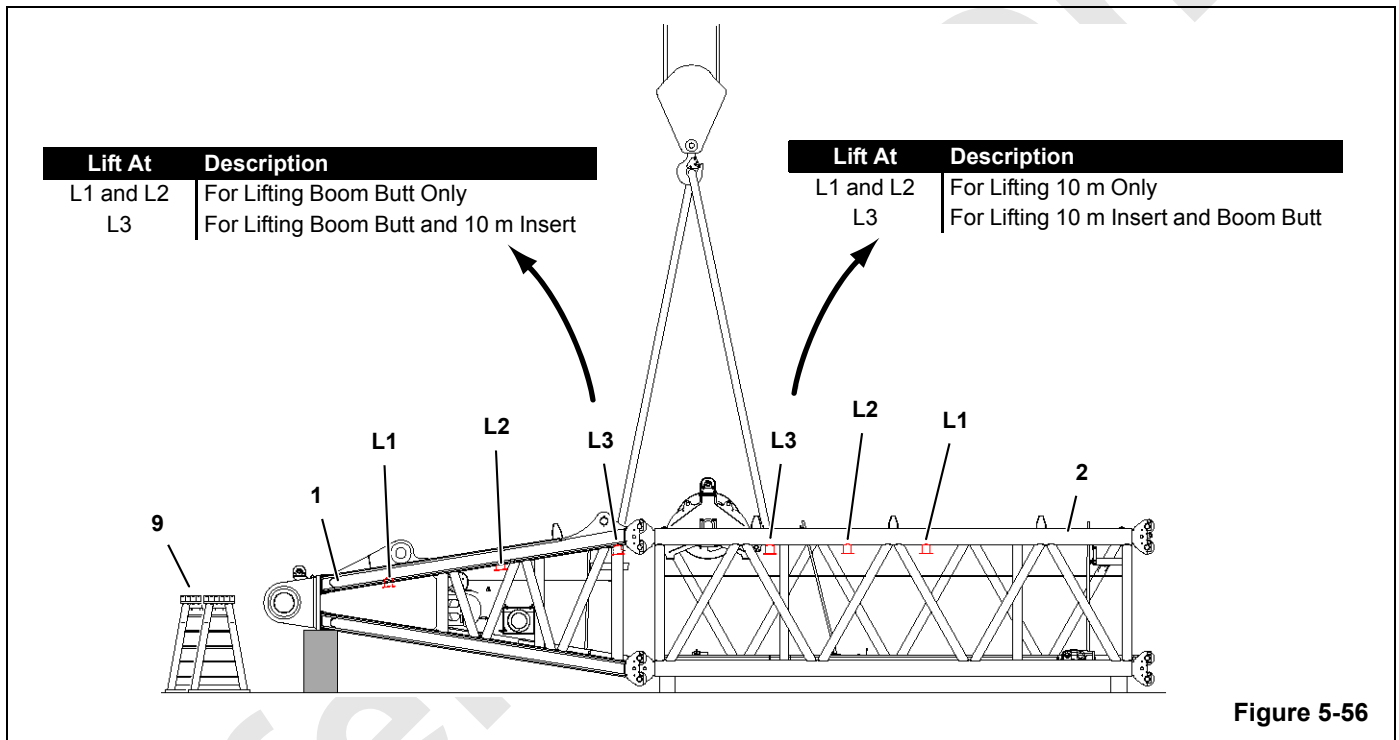

Figure 5-56
NOTE See Figure 5-56 for lifting lug identification.
3. Remove pins (4, View A) from locking levers (6).
4. Store pins (4, View B) in tubes (5).
6. Using assist crane, lift boom butt (1, View D) and insert (2) off the crane and place them on blocking (Figure 5-56).
8. Place boom supports (9) to the side. They will be used to support the pivot and counterweight frames later in the disassembly procedure (see page 5-117).